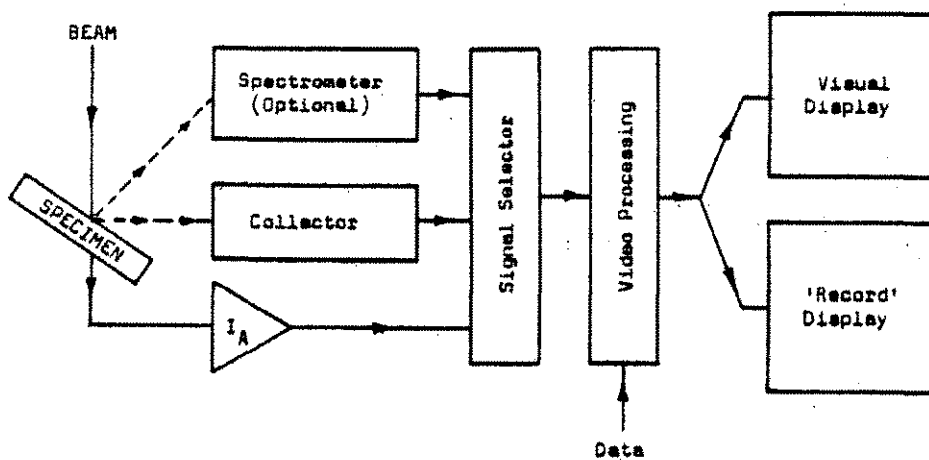

Figure 7.6 Typical Use of Basic Video System
- Figure 7.6 Electron Collection
#### **7.2.4 Electron collection and video processing. (fig 7.6)**